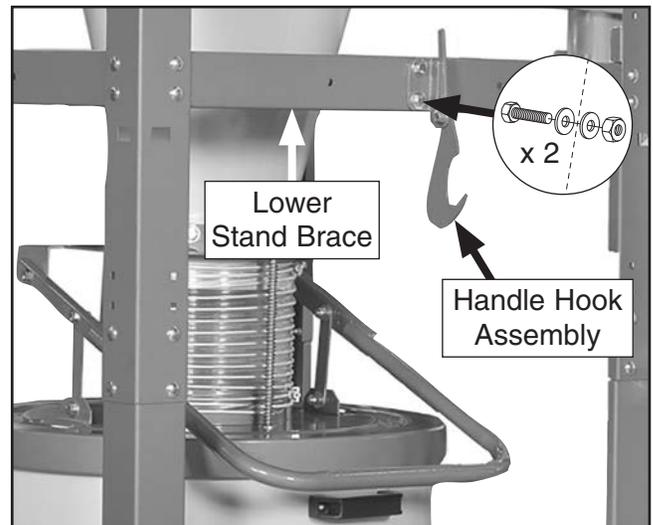

Figure 28. Handle hook assembly attached to lower stand brace.
39. Attach handle hook assembly to lower stand brace above collection lid handle with (2) $\frac{3}{8}$ "-16 x 1" hex bolts, (4) $\frac{3}{8}$ " flat washers, and (2) $\frac{3}{8}$ "-16 lock nuts (see **Figure 28**).